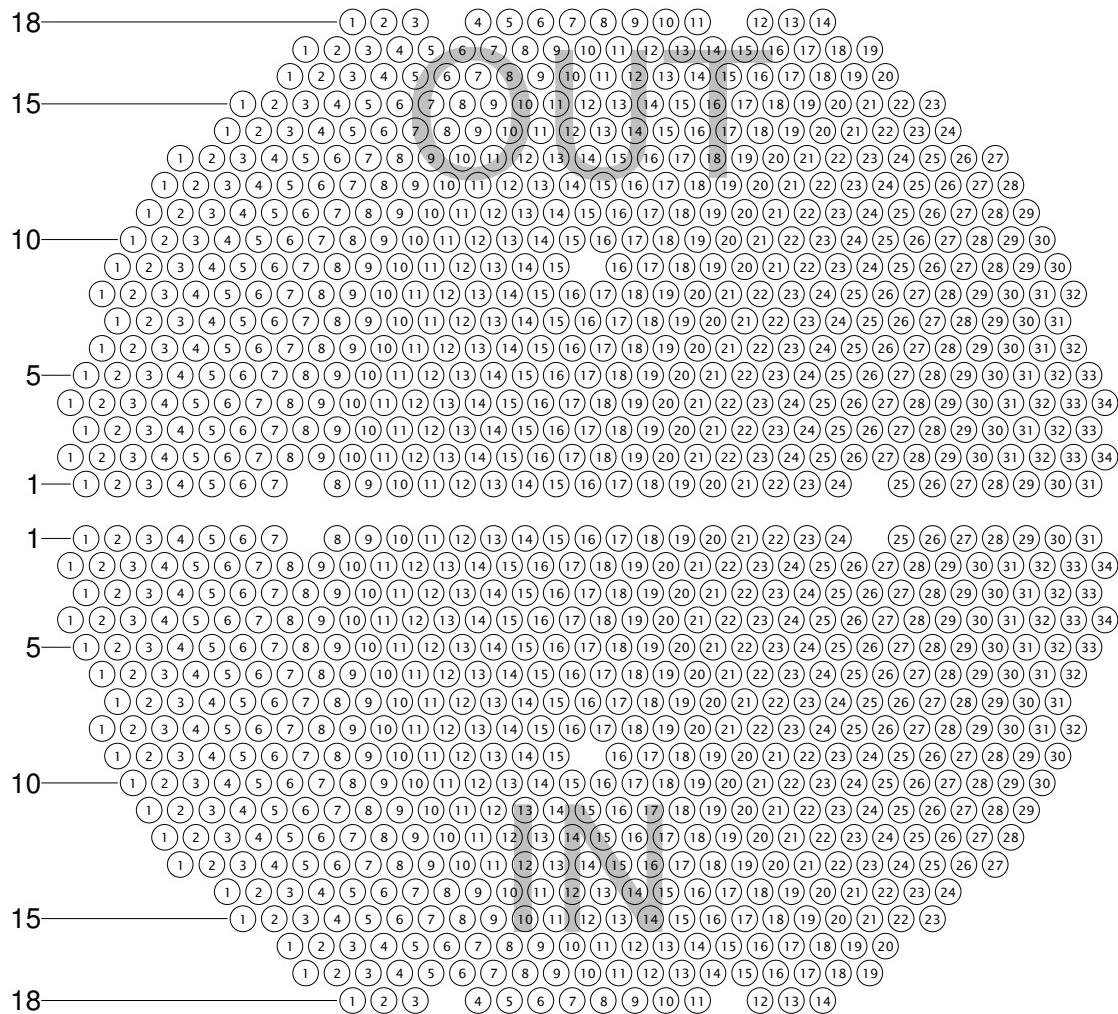

Figure 58. Tutorial Component (FWH3A)
For this tutorial, we will create a U-tubed feedwater heater showing both halves (legs) of the tube bundle. The intent is to inspect only the straight-lengths on each leg and we will setup the component file accordingly. Figure 58 shows the component that we'll build during this tutorial.
To build the component shown in Figure 58:
A building grid now appears based on the settings in the ***Group Parameters*** dialog. We'll now enable the group of tubes that exist in the lower half (inlet pass) of the feedwater heater. A printout of the page containing Figure 58 will be helpful for the remaining steps
- STEP 1 :** Look at Figure 58. Counting the blank spaces in the first row on the lower half (IN), decide on the total number of tubes in row #1. You should come up with **33**.
- STEP 4 :** Look at Figure 58 again. Decide on the total number of tubes in row #2. You should come up with **34**.
- STEP 9 :** Click **OK** on the **Auto Tick Param** dialog. Row ticks now appear on every 5th row of the section, plus the *first* and *last* rows. Compare the tubesheet map on-screen to the lower half of Figure 58.